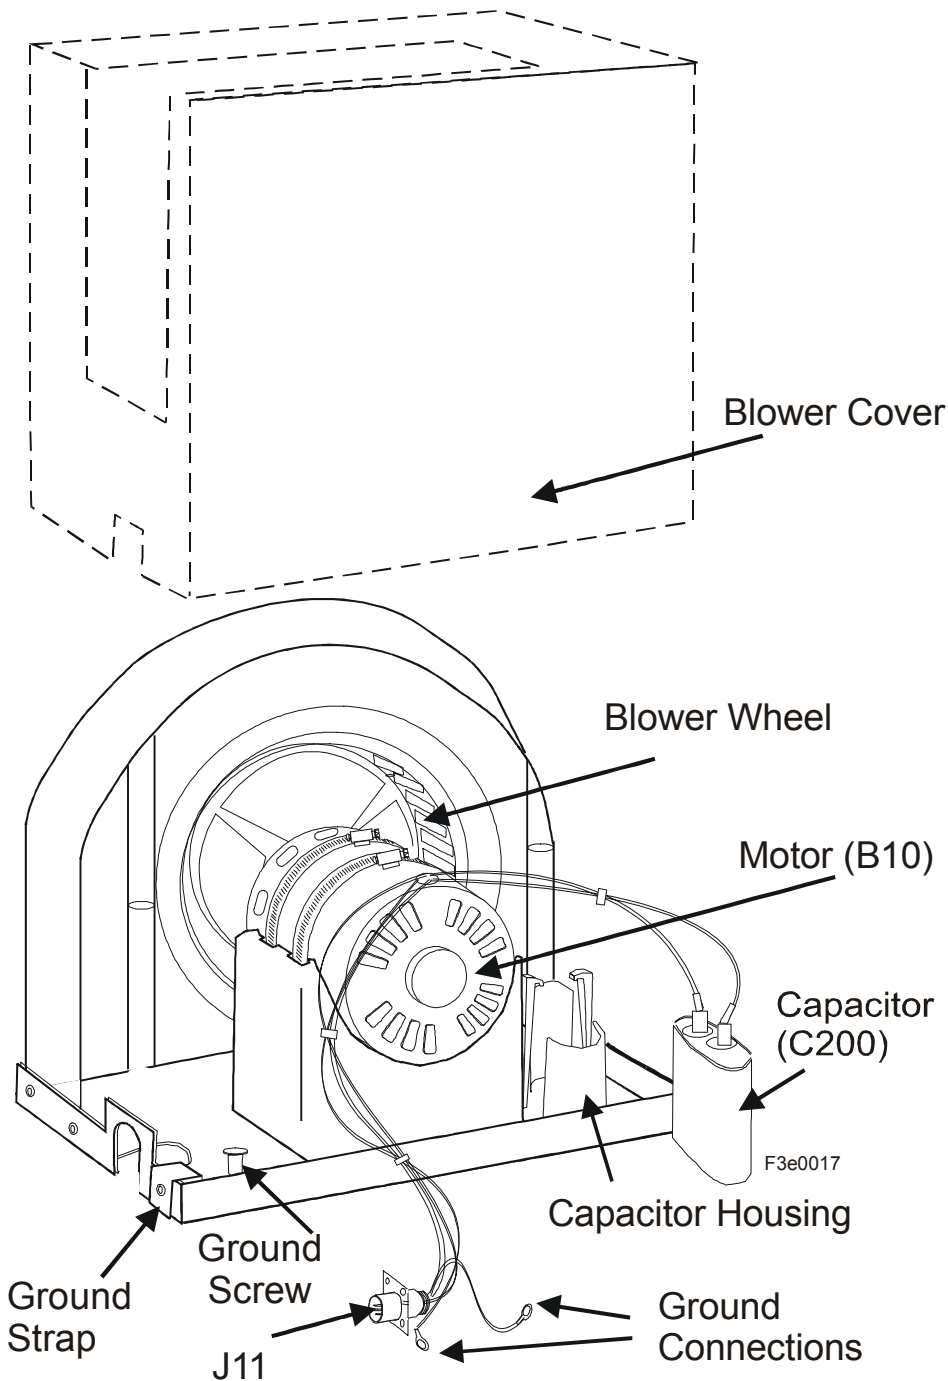

Figure 48. Blower Components
1. Remove the blower cover. Remove the screws holding connector J11 to the blower chassis. Cut the leads to the blower and disconnect the ground wires from the ground screw (see Figure 48 on page 119).